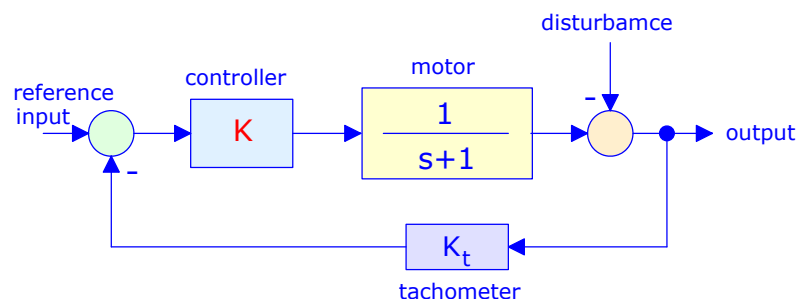

Fig. 3 Block diagram of a speed control system.
- 3) Use **SIMULINK** to simulate the behavior of the motor speed control system shown in Fig. 3 for 10 seconds, and for different controller gains ($K=1, K=10, K=20, K=50, K=80,$ and $K=100$), using a unit-step reference input and no disturbance. (Assume $K_t = 1$ volt/rad/sec)